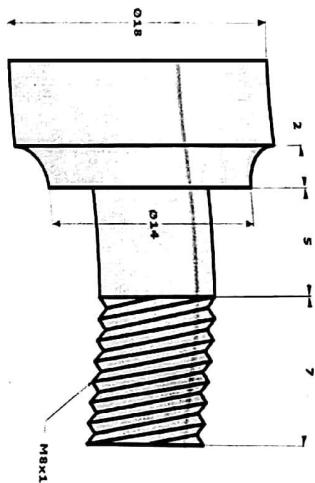

Fig. 2
- Q3 (a) Write a CNC part program for the component as shown in the Fig. 2.